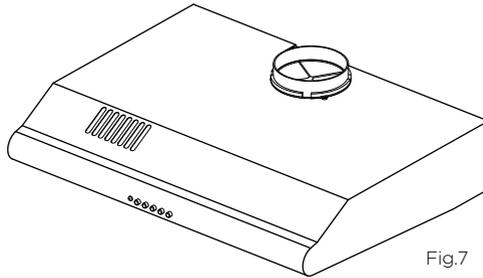

Fig.7
① Attach the ducting adapter to the rangehood (if ducted)
- Place the ducting adapter onto the hood and screw it in place using 10 mm screws (see Fig.7).